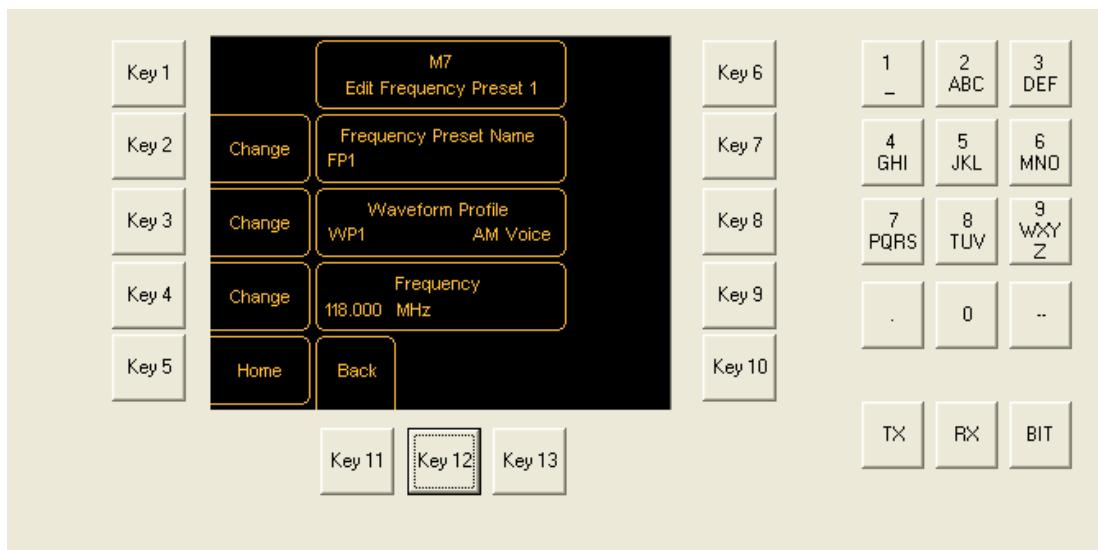
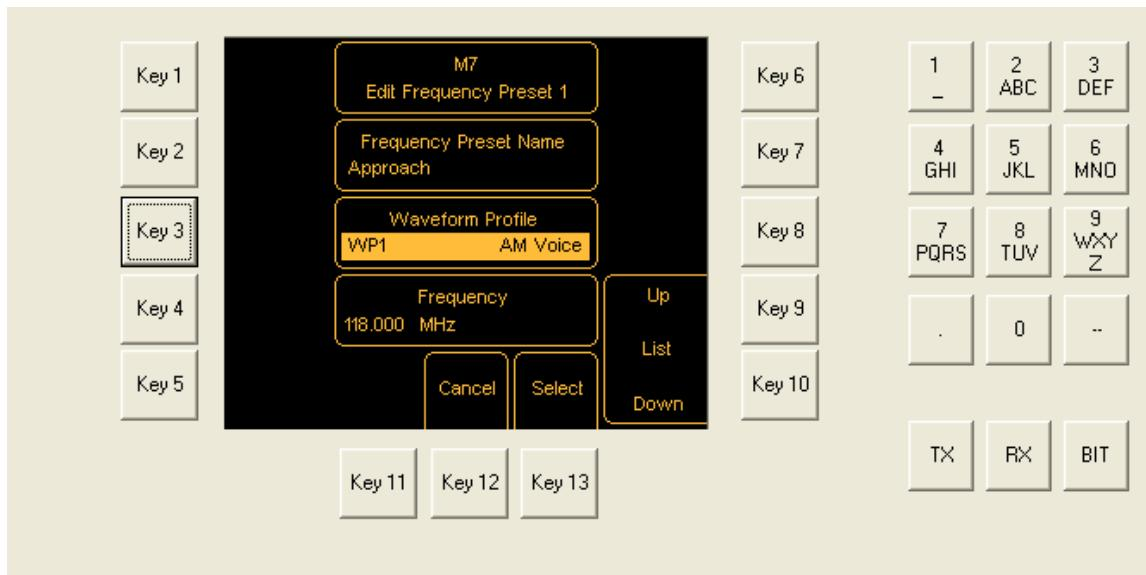

Fig 3-41 Frequency Preset Edit Screen
Fig 3-43 Select Waveform Profile
- Pressing Key 9 to scroll up, or Key 10 to scroll down, highlight the frequency preset to be edited then press Key 12 – *Edit* to display the Frequency Preset Edit screen (Fig 3-41).
- (4) When the new name has been entered, press Key 13 – Select. You are returned to the Frequency Preset Edit screen (Fig 3-41).
(5) The next parameter is to attach a previously stored Waveform profile to the frequency preset. Press Key 3 – *Change* (Fig 3-41). Pressing Key 9 to scroll up, or Key 10 to scroll down, highlight the required waveform profile (Fig 3-43), then press Key 13 – *Select*.